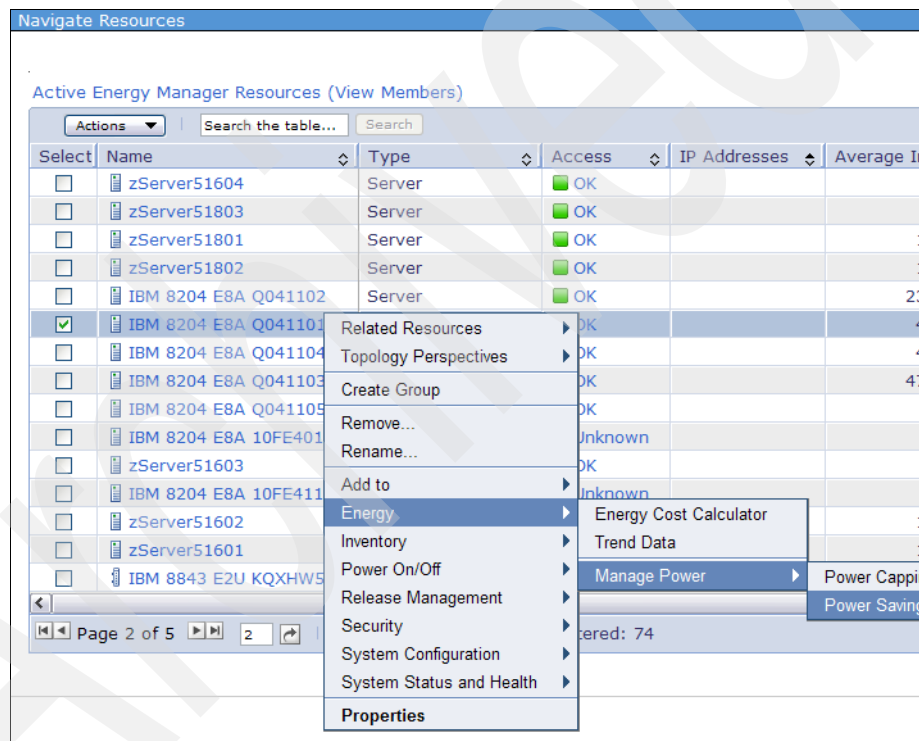

Figure 7-5 Setting dynamic power savings (favor power savings) - 1
2. Right-click a resource and select **Energy** → **Manage Power** → **Power Savings** (Figure 7-5).